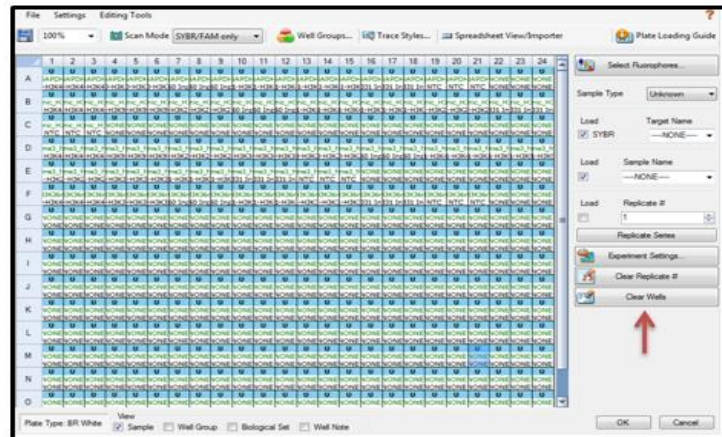

Figure 30: Clearing empty wells
5.9. It is important to clear all the wells that are not being used. Using CTRL+left click to select those wells that are empty. Click on ‘Clear Wells’ as shown in Figure 30 below.